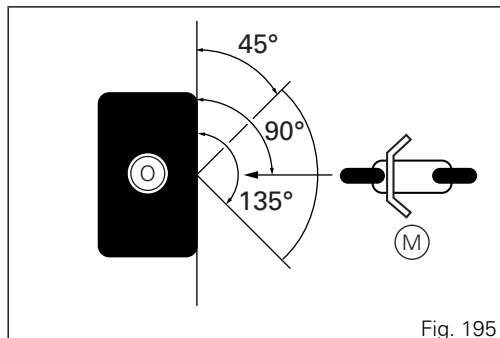

Fig. 195
Accident conditions, motorcycle impact (M) against an obstacle (O), for which D-Air® has obtained the certification by the TÜV SÜD, are shown in the figure (Fig. 195).